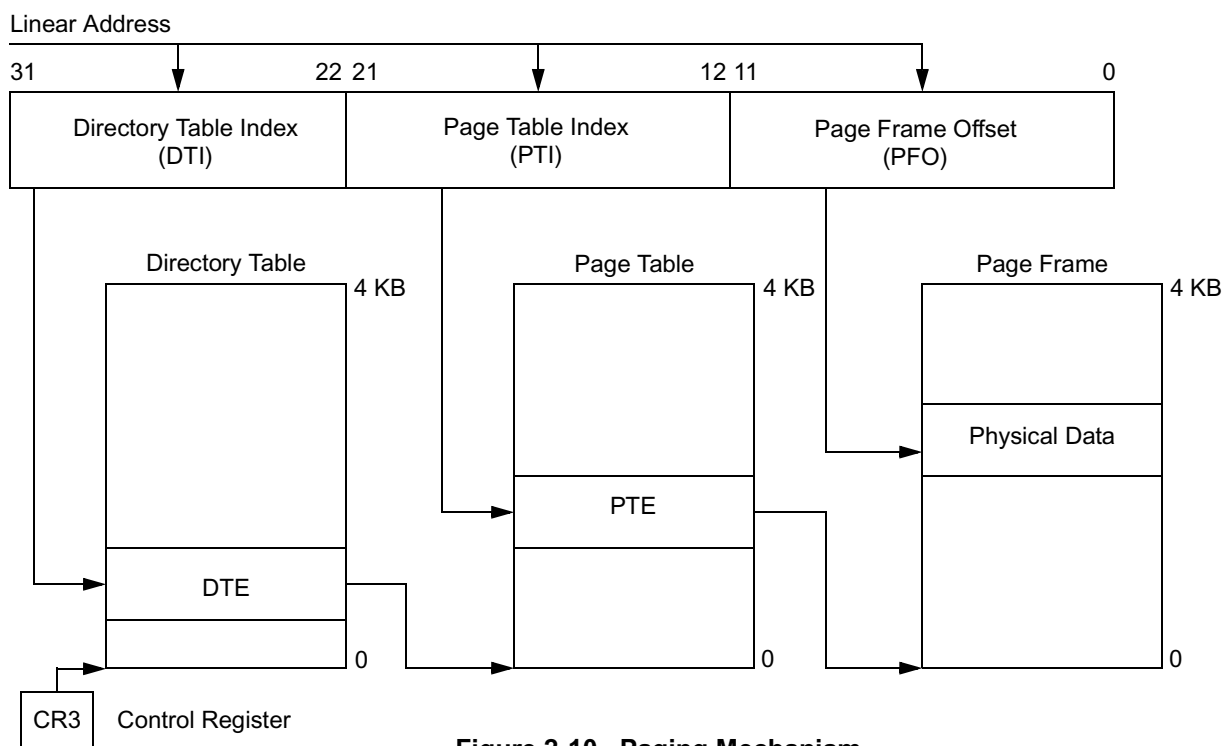

Figure 2-10 Paging Mechanism
A page is addressed by using two levels of tables as illustrated in Figure 2-10 on page 58. The upper 10 bits of the 32-bit linear address are used to locate an entry in the page directory table. The page directory table acts as a 32-bit master index to up to 1 KB individual second-level page tables. The selected entry in the page directory table, referred to as the
In addition to the base address of the page table or the page frame, each directory table entry or page table entry contains attribute bits and a Present (P) Flag bit as illustrated in Figure 2-10 and listed in Table 2.28.